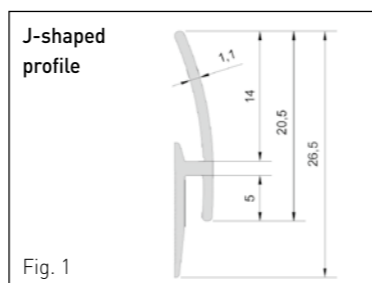

Fig. 1
- Position the H-profile mounting base along the side of the panel and leave a 5-mm gap between the base and the edge of the panel, as well as a 25-mm gap from the top edge of the panel (see Fig. 1).